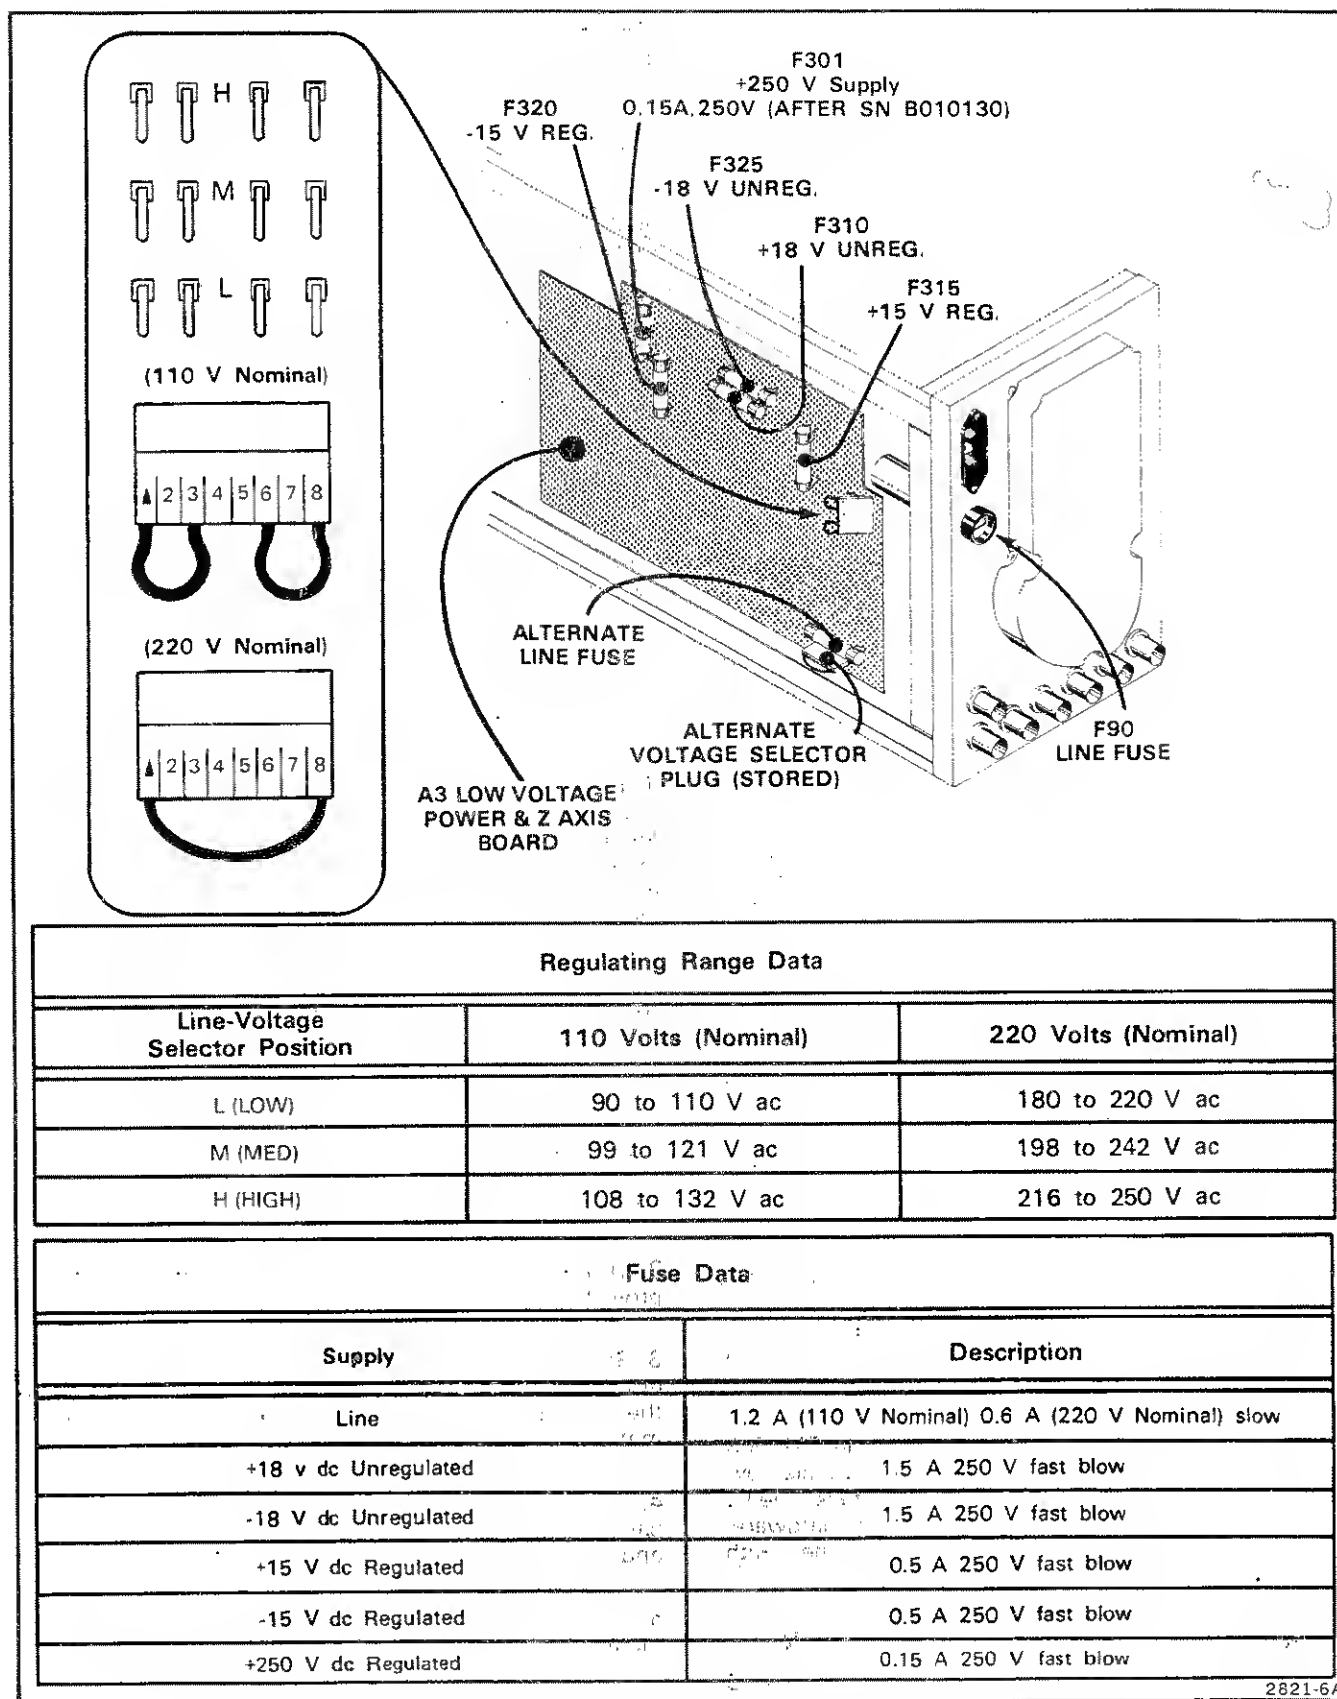

Figure 1-1. Location of line-voltage selector plugs, regulating-range pins and fuses.
2. Insert the proper line-voltage selector plug (the brown plug for 120-volt operation or the red plug for 220-volt operation) on the line-voltage selector pins (located on the Low-Voltage Power & Z Axis board) labeled for the desired nominal line-voltage range. Refer to Figure 1-1 for location and additional information.
3. Remove the line fuse from the fuse holder and check for the correct rating. Replace it with one having the correct rating, if necessary. Refer to Figure 1-1 for fuse information and location.
An alternate line fuse, intended for the line-voltage source for which the Monitor was not set when shipped from the factory, is clipped to the Low-Voltage Power & Z Axis board (see Fig. 1-1).